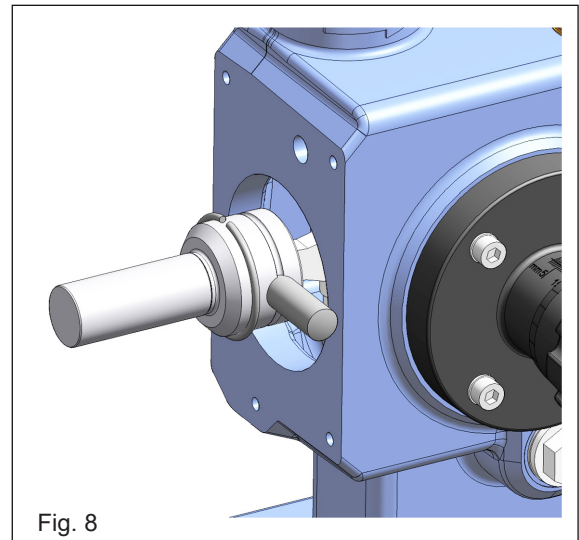

Fig. 8
2. Mount cylindrical pin (32) into plunger (502) and connecting rod (10) from the side (see figure 8).